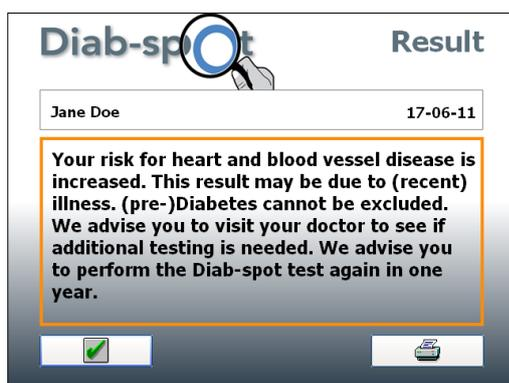

Figure 20. High CV risk result screen
2. The risk for heart and blood vessel disease is increased, diabetes cannot be excluded. Advised to visit doctor for additional testing, repeat Diab-spot test again in 1 year (figure 20).
If, after evaluation of the Diab-spot measurement and the clinical characteristics, an increased risk for having (pre-) diabetes is determined a positive test result will be shown. This positive test results will be shown on the display (figure 20 and 21).